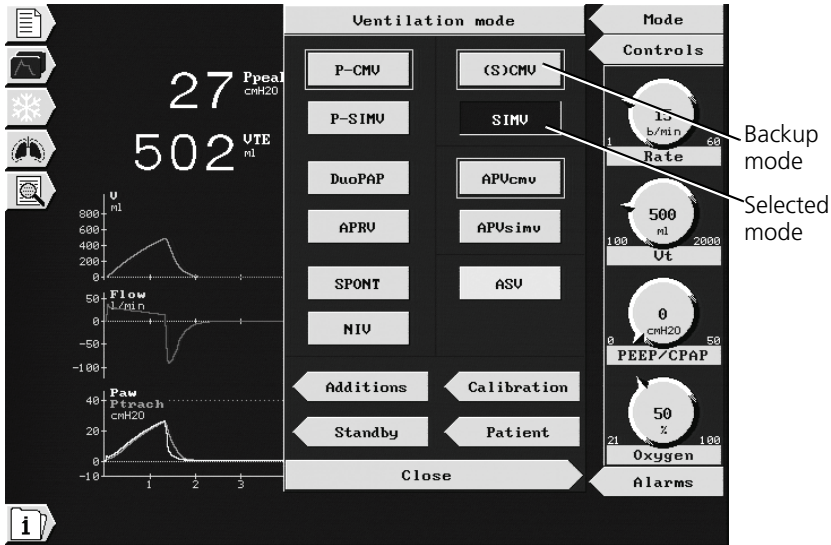

Figure 4-1. Ventilation mode window
1. Open the **Ventilation mode** window (Figure 4-1).
2. Open the **Ventilation mode** window (Figure 4-1).